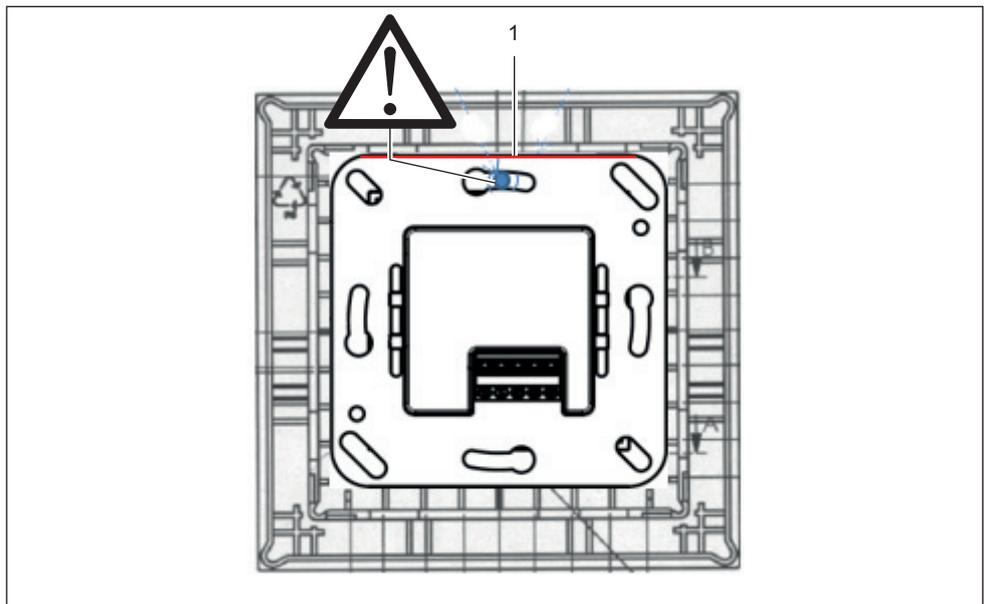

Fig. 4: Insert the WRU 220 reader into the blind module
3. Insert the reader into the blind module FLUSH WITH THE TOP (fig. 4/1).